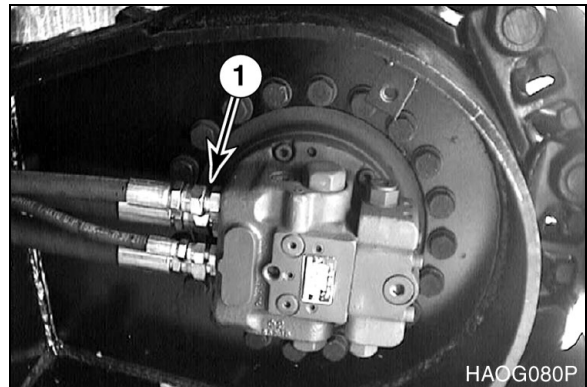

Figure 101
2. Disconnect drain hose (Figure 101) and fill motor case with hydraulic oil.